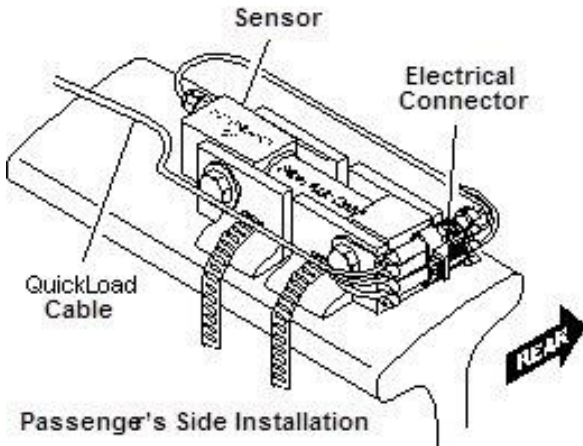

Figure 14. Placing the QuickLoad Scale Cable for Passenger's Side Hookup
1. Facing towards the rear of the vehicle, route the cable from the connector assembly so it runs to the left of the steer axle sensor assembly. See Figure 14.